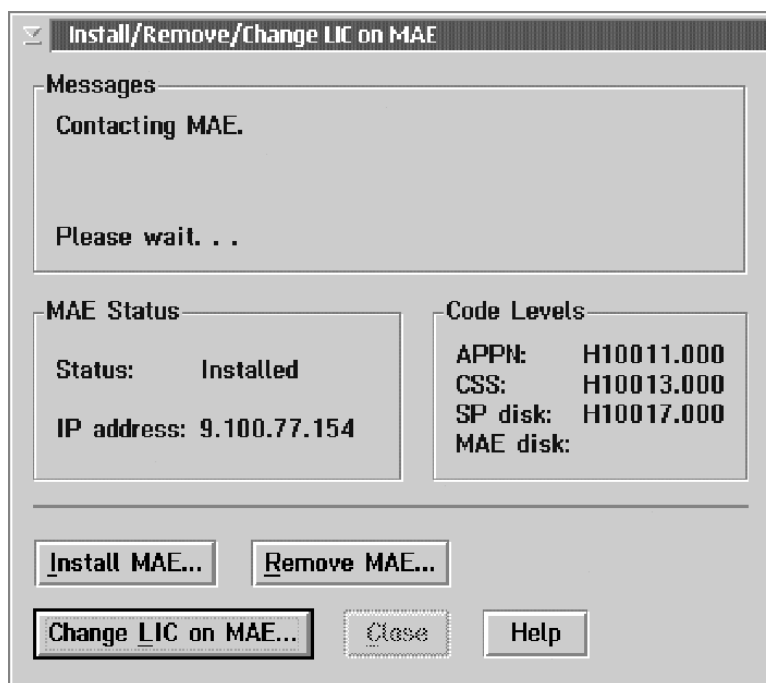

Figure 5. Changing MAE LIC Installation Window
- 3. From the **Multiaccess Enclosure (MAE)** folder, select the **Install/Remove/Change LIC on MAE** function, in order to replace the MAE LIC on the MAE hard disk with the MAE LIC stored on the service processor hard disk. The following window is displayed (Figure 5).